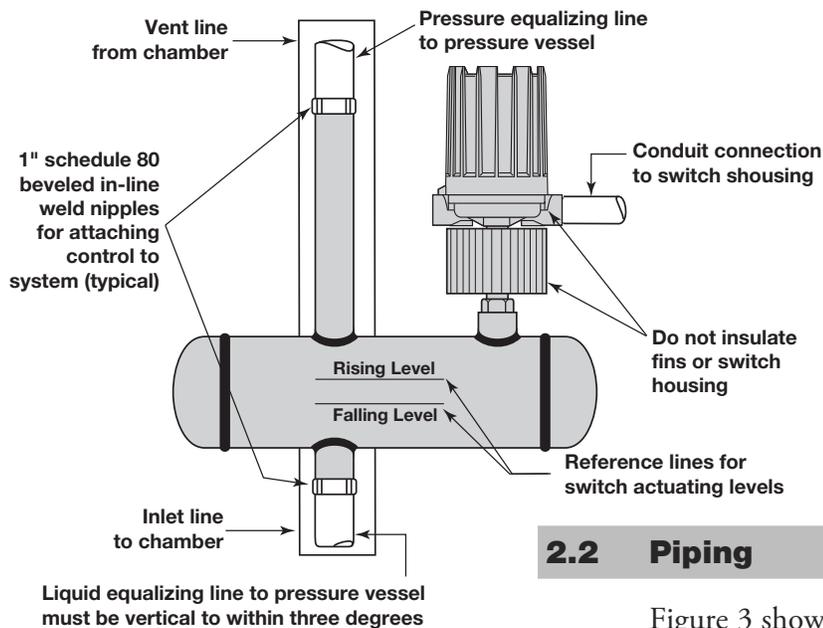

Figure 3
Figure 3 shows a typical piping installation of a Model B40 in a pipeline to a pressure vessel. Reference lines, on float chamber, should be aligned to correspond with liquid level in the vessel at which switch control is desired (refer to dimensional drawing, if furnished). Use pipe of sufficient strength to support the unit. If necessary, provide a stand or hanger to help support its weight. All piping should be straight and free of low spots or pockets so that the lower liquid line will drain towards the vessel and the upper vapor line will drain towards the control. Pipeline should be insulated, as shown, to minimize loss of liquid temperature and further control of the heat in the area of the switch housing. **DO NOT** insulate switch housing or fins.
6. If switch magnet assembly swings freely and mechanism still fails to actuate, check installation of control to be certain it is within the specified three degrees of vertical. (Use spirit level on side of enclosing tube in two places, 90° apart.) Refer to Figure 3 on page 5.